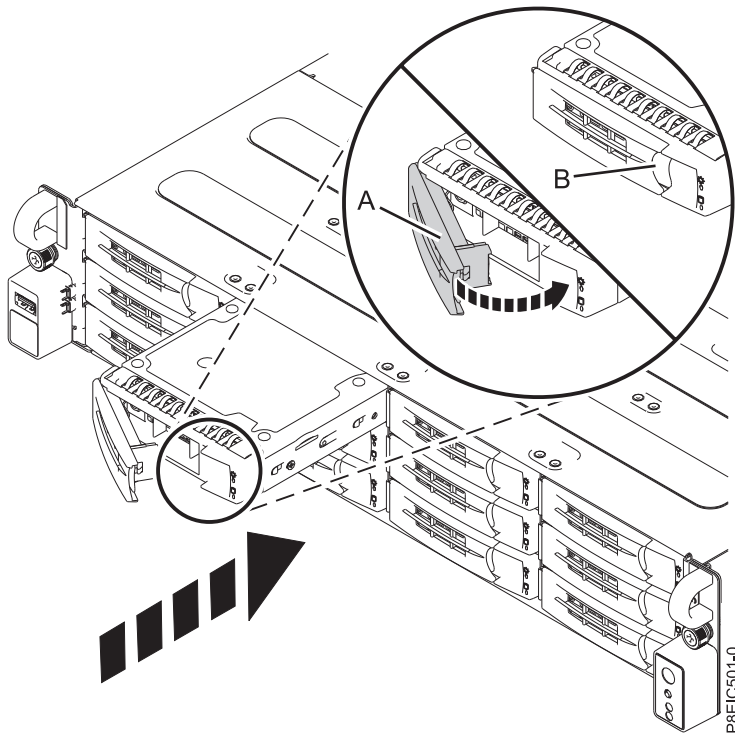

Figure 58. Locking the drive tray handle
3. Hold the drive tray by the bottom as you position the drive tray. Slide the drive tray all the way into the system. Push the drive tray in until the drive tray handle (A) starts to close, then push the handle in until it locks, as shown in Figure 58.